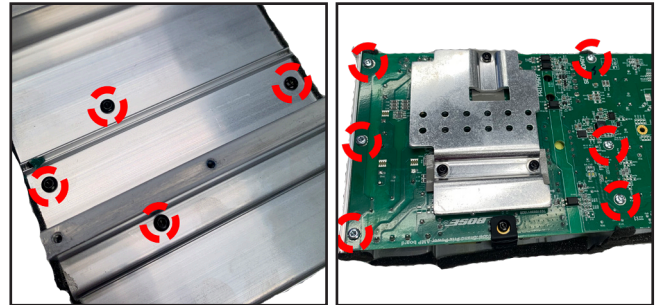

Figure 12. Power-Amp Board Screws Removal
2.7 Remove the 10 screws that secure the Power-Amp board as indicated in Figure 12.